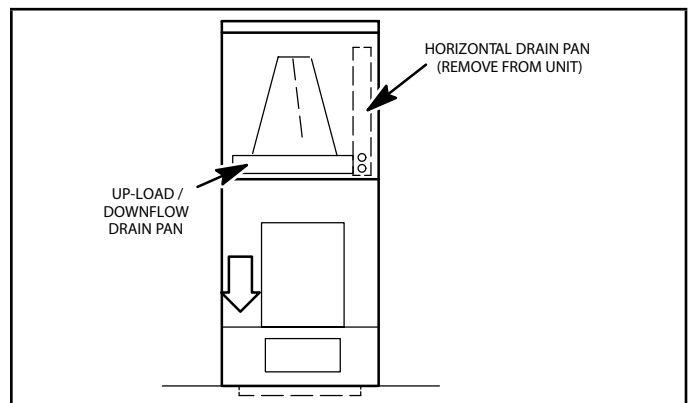

FIGURE 13. Downflow Discharge Position
- 2 - For best efficiency and air flow, remove the horizontal drain pan from the units in downflow positions as illustrated in figure 13.
- 3 - Rotate cabinet 180° from the upright position. See figure 13. You may need to first remove the blower assembly to lighten the cabinet for lifting.
The discharge air sensor should be mounted downstream of the electric heat elements as illustrated in figure 13, detail A. It must be placed in a location with unobstructed airflow, where other accessories (such as humidifiers, UV lights, etc.) will not interfere with its accuracy.